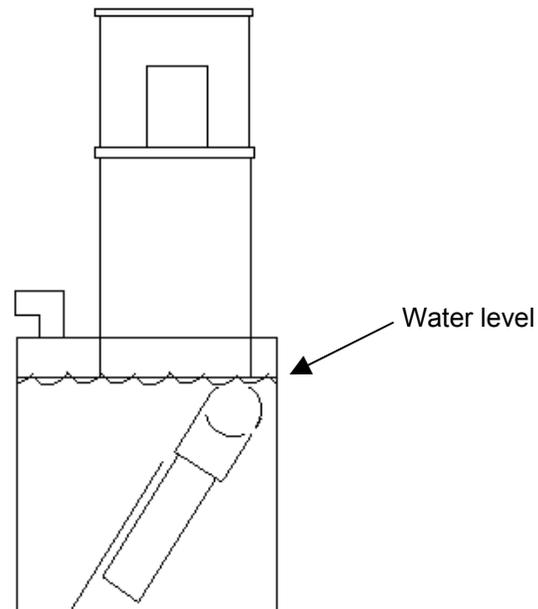

FIG. 5
Allow the skimmer several minutes to settle at a stable water height. With the gate valve completely open, the skimmer water level should rise approximately two-thirds of the way up the main chamber. Since your skimmer is made of translucent gray acrylic, you should be able to observe the interior water level (you might need to use a flashlight). Slowly close the gate valve one-half turn at a time until the water level rises within $\frac{1}{2}$ " of the internal platform. Once again, allow the skimmer several minutes to stabilize at this new height (fig. 5). **If you set the water level any higher than this, foam production may be impeded and you increase the risk of overflow and flood.**
After approximately one week your skimmer should be functioning near maximum efficiency. In some cases, this period may be reduced or extended. Rich, thick foam should rise up the foam tower and spill into the collection cup. At this point, **small adjustments** can be made to the exit valve to control the exact quality and quantity of foam you wish to collect. Some aquarists prefer to collect a very dry, dark foam, whereas others choose a setting which produces a steady yellowish liquid. Either will work fine. Always make small adjustments to the gate valve; determining the optimum water level will take some time and experience. **Do not raise the water level inside the skimmer more than 1-2" above the waterline shown in figure 5.** Doing so will immediately cease efficient foam production, and increase the risk of overflow. Be patient during the skimmer's first few days of operation since it will take some time and experience to find the best water level. Constant fiddling with the gate valve will slow this process.
- B. Check the water level inside the skimmer's main chamber. An incorrect water level will prevent proper foam production. Adjust the gate valve so that the interior water level is near the level of the internal platform (fig. 5).